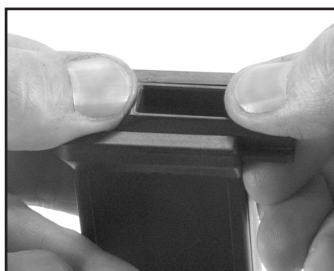

Fig. 31
2. Fully depress follower spring and locking plate (Fig. 31) and slide magazine floorplate onto magazine housing from the rear.